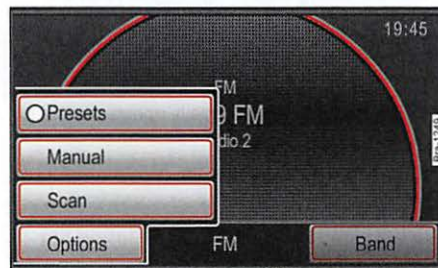

Fig. 9 Version I: Pop-up-window Options function button.
• **Version I:** Touch the **[Manual]** function button in the pop-up window ⇒ fig. 9. The pop-up window closes and the **[Options]** function button changes to **[Manual]**.
• In the **RADIO** main menu press the function button **[Extras]** ⇒ fig. 9.